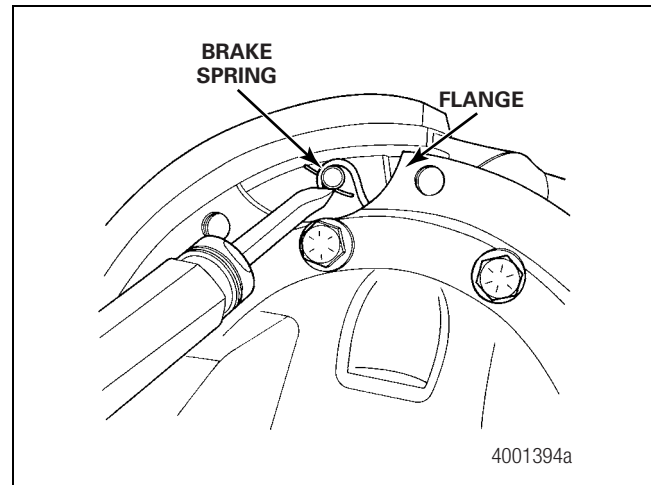

Figure 5.27
8. Place the brake shoes against the cam. Use brake spring pliers to install the return spring onto the shoes. Verify that the rollers in the brake shoes are against the low points of the cam. Figure 5.27.